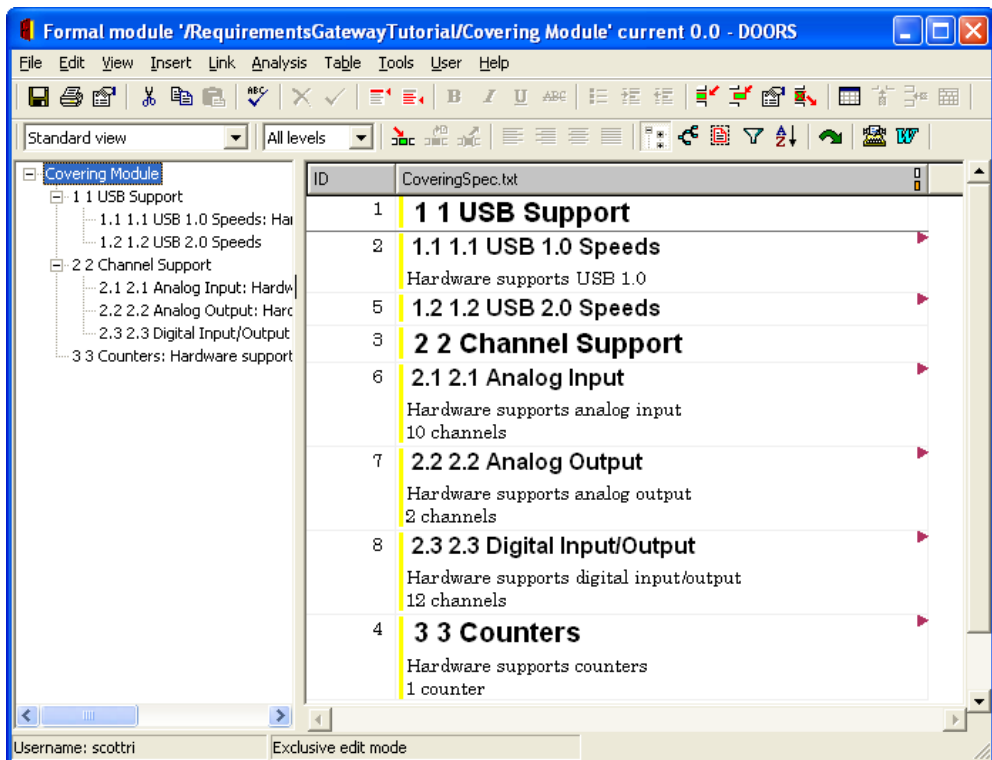

Figure 11-7. CoveringSpec.txt in DOORS
10. Double-click **Covering Module** to display the module as shown in Figure 11-7. The content of the module mirrors the traceability information displayed in Requirements Gateway, and links exist between the Covering Module and the Requirements Module.